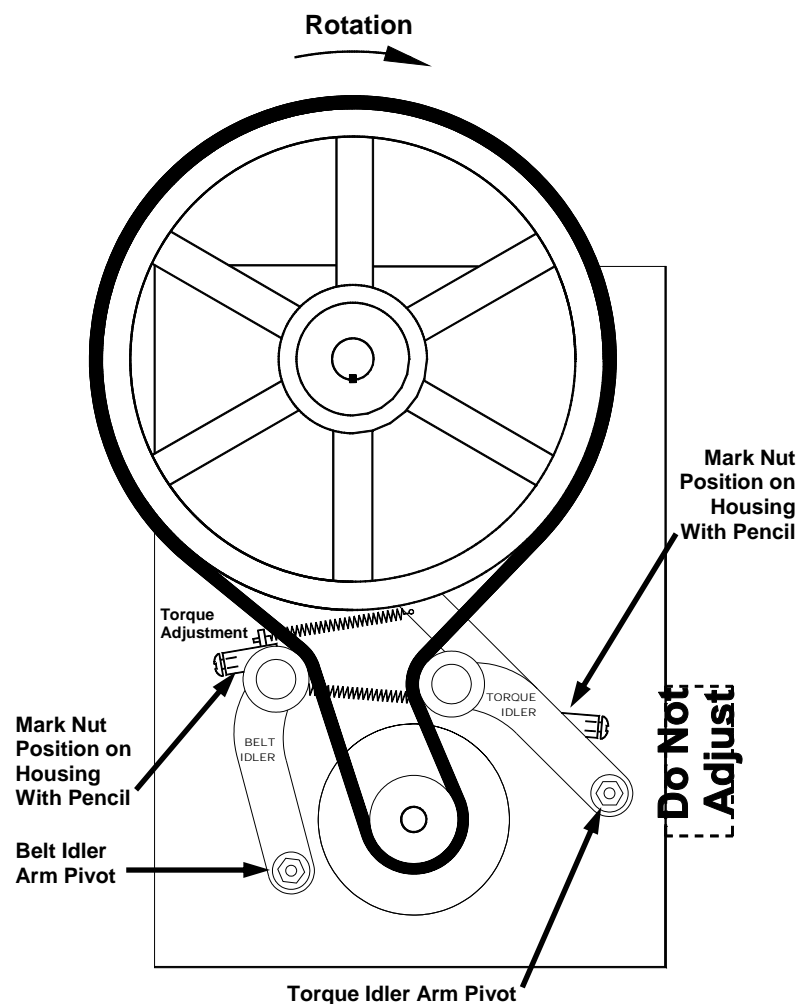

Fig. 33
Semiannually: It is advisable to clean and lubricate the idler arms (Fig. 33) to ensure their smooth operation. Use the following procedures:
3. Use a pencil to mark the position of the nut (Fig 33) on the side of the belt idler arm spring adjustment mechanism. Relieve the tension on the spring by turning the adjustment screw near the label which warns: **DO NOT ADJUST**. Disconnect the spring from the belt idler arm by placing needle nose pliers on one end of the spring and pulling the end out of the retainer.